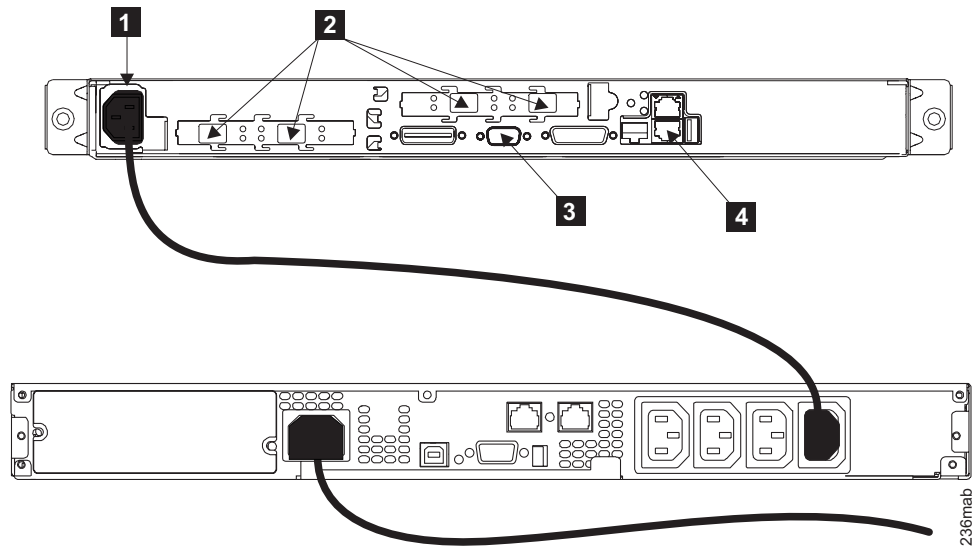

Figure 1. Power cable and signal sockets
Figure 1 on page xxvii shows the connectors for the SAN Volume Controller and the uninterruptible power supply (UPS) 5115.
2. Ensure that the power cable **1** is plugged in to the UPS 5115's load segment receptacle. Also ensure that the other end of the power cable is connected from the UPS 5115 to the distribution point in the rack. See Figure 1 on page xxvii.